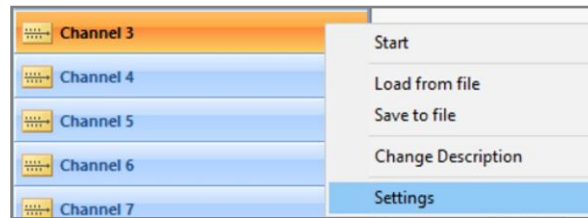

Figure 3.3.9 Editing a protocol in a specific channel
E) 'Settings': Will display the Stimulation guide to create a protocol with defined settings for ONLY a single channel. In figure 3.3.9 below is an example for Channel 3, clicking on 'Settings' and altering the stimulation protocol, will change the stimulation protocol ONLY for Channel 3 whilst the others will remain unchanged unless individually edited as described here: